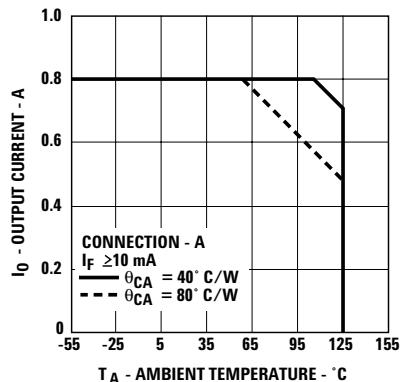
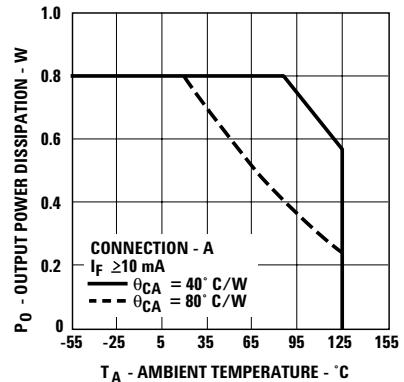

Figure 2. Maximum Average Output Current Rating vs. Ambient Temperature.
Figure 4. Output Power Rating vs. Ambient Temperature.
Average Output Current - Figure 2	I_o
2. For rating, see Figure 4. The output power P_0 rating curve is obtained when the part is handling the maximum average output current I_0 as shown in Figure 2.
IN ORDER TO DETERMINE V_{OUT} CORRECTLY, THE CASE TO AMBIENT THERMAL IMPEDANCE MUST BE MEASURED FOR THE BURN-IN BOARDS TO BE USED. THEN, KNOWING θ_{CA} , DETERMINE THE CORRECT OUTPUT CURRENT PER FIGURES 2 AND 4 TO INSURE THAT THE DEVICE MEETS THE DERATING REQUIREMENTS AS SHOWN.
output pins for a duration sufficient to reach thermal equilibrium. R_{SS} includes the effects of the temperature rise of each element in the thermal model. Rating curves are shown in Figures 2 and 4. Figure 2 specifies the maximum average allowable output current for a given ambient temperature. Figure 4 specifies the output power dissipation allowable for a given ambient temperature. Above 55°C (for $\theta_{CA} = 80^\circ\text{C}/\text{W}$) and 107°C (for $\theta_{CA} = 40^\circ\text{C}/\text{W}$), the maximum allowable output current and power dissipation are related by the expression $R_{SS} = P_0(\text{max}) / (I_0(\text{max}))^2$ from which R_{SS} can be calculated. Staying within the safe area assures that the steady-state junction temperatures remain less than 150°C . As an example, for $T_A = 95^\circ\text{C}$ and $\theta_{CA} = 80^\circ\text{C}/\text{W}$, Figure 2 shows
that the output current should be limited to less than 610 mA. A check with Figure 4 shows that the output power dissipation at $T_A = 95^\circ\text{C}$ and $I_O = 610 \text{ mA}$, will be limited to less than 0.35 W. This yields an R_{SS} of 0.94Ω .